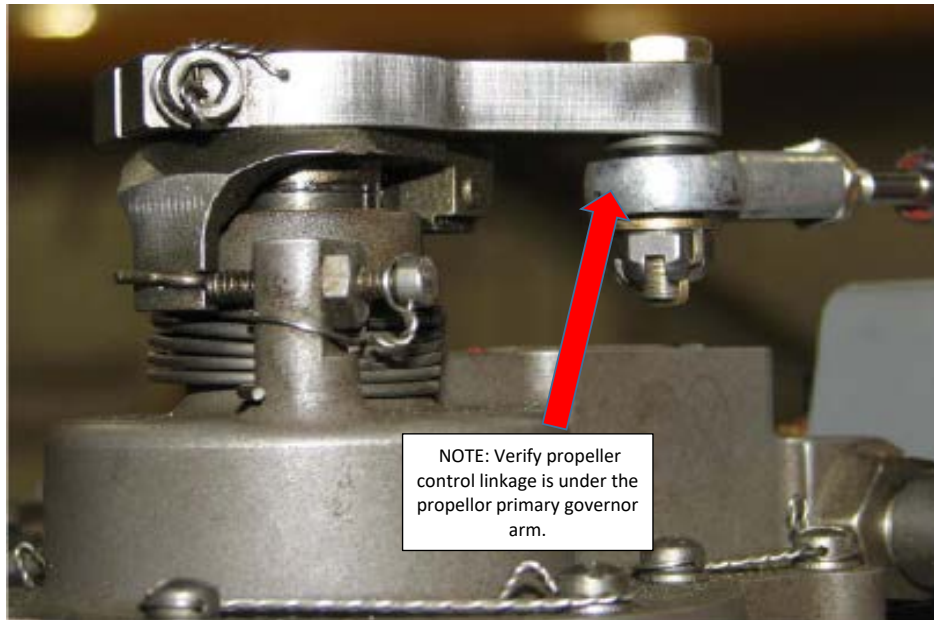

Figure 76-19 - Shortening the Effective Lever Arm Stroke (If Required)
1. Move the propeller control in the cockpit to feather. Then, as shown in **Figure 76-19** clip the safety wire and remove the lever retaining screw.
5. Reinstall the speed control lever, and repeat Steps 1 - 5 to ensure that both the max Np Stop and the feather stop are firmly contacted when actuated from the cockpit. **NOTE: Verify propeller control linkage is under the propeller primary governor arm as shown in FIGURE 76-19.**